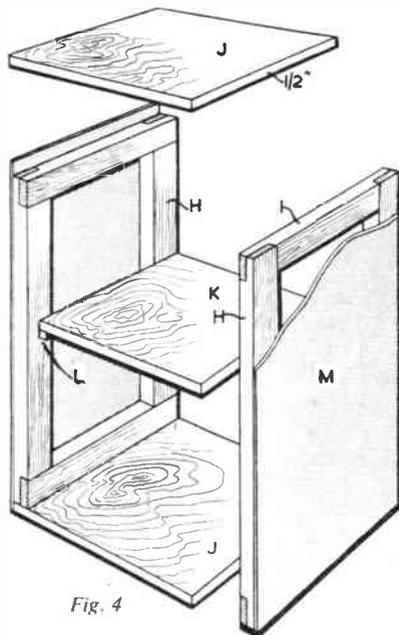

Fig. 4
Next the cabinet as indicated in Fig. 4. Two frames measuring 20 ins. by 15 ins. are made up from 1 in. by  $1\frac{1}{2}$  in. material halved together. The shelves (J) and (K) are cut from  $\frac{1}{2}$  in. plywood. Shelves (J) are nailed to the frames and the middle shelf (K) is supported by pieces of  $\frac{3}{4}$  in. square stripwood (L). Hardboard is cut to size and pinned in place to cover the frames (M).